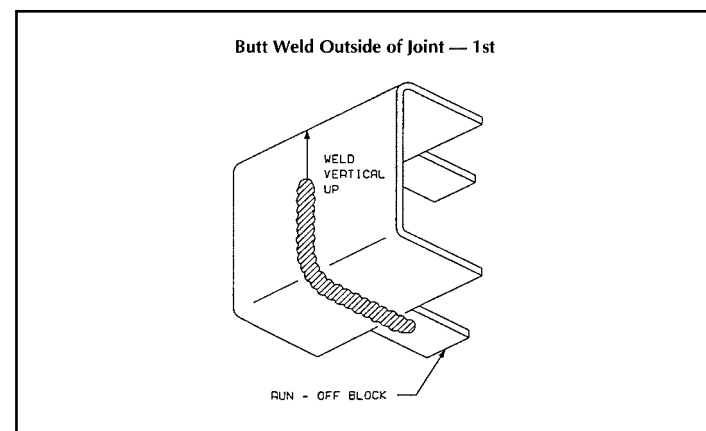
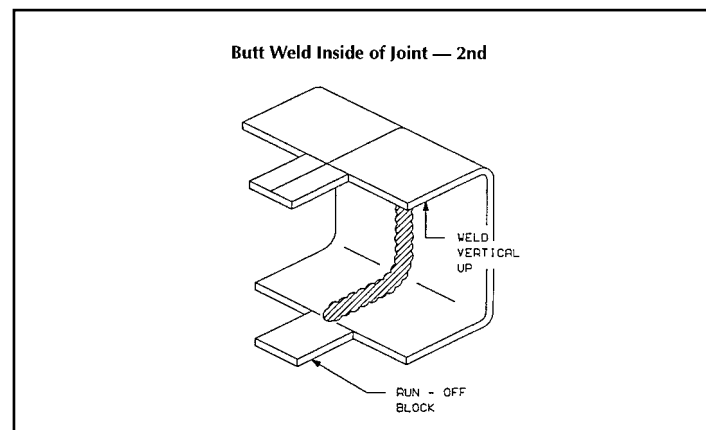

Figure 5
Figure 6
6. Tack weld runoff blocks to the edge of the upper and lower flanges of the frame and frame insert (Figures 5 and 6). This helps to eliminate joint edge burnout and prevent joint movement during butt welding.
8. Butt weld the outside of the joint with a single pass — vertical up (Figure 5). Butt welds on the inside surface of the frame should also be done with a single pass (Figure 6).